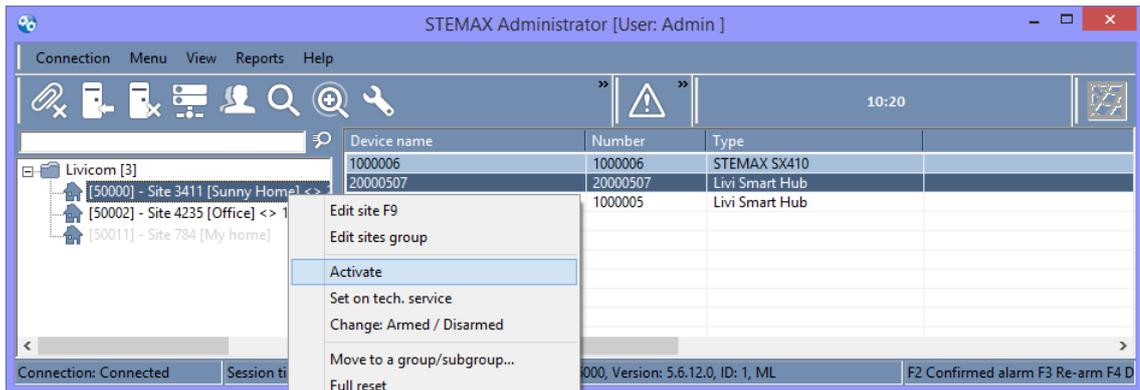

Figure 9.1 – Activating the site
4. Right-click on the site name and selects "*Activate*" in the context menu (see figure 9.1).